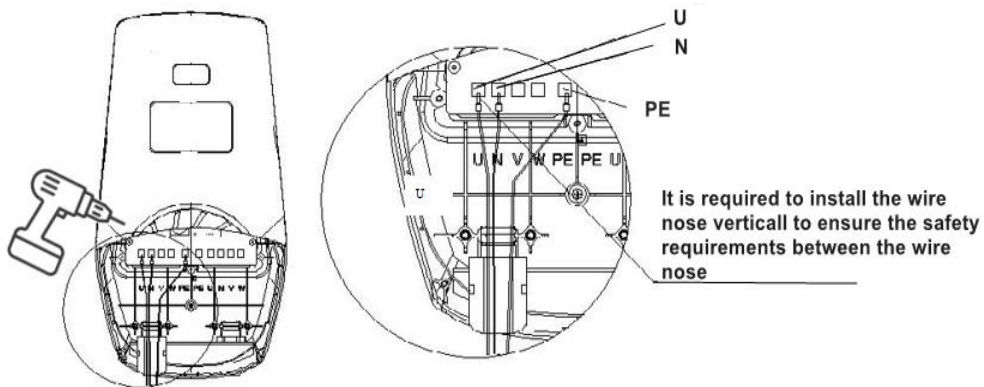

Figure 7- 7kW Wiring diagram
1. Pass the cable through the cable entry hole at the bottom of the charger. Use an electric screwdriver to connect the brown cable to the U terminal of the power board of the charger. Connect the blue neutral cable is to the N terminal, connect the yellow-green ground cable to the PE terminal on the left, as shown in the Figure 7 below;